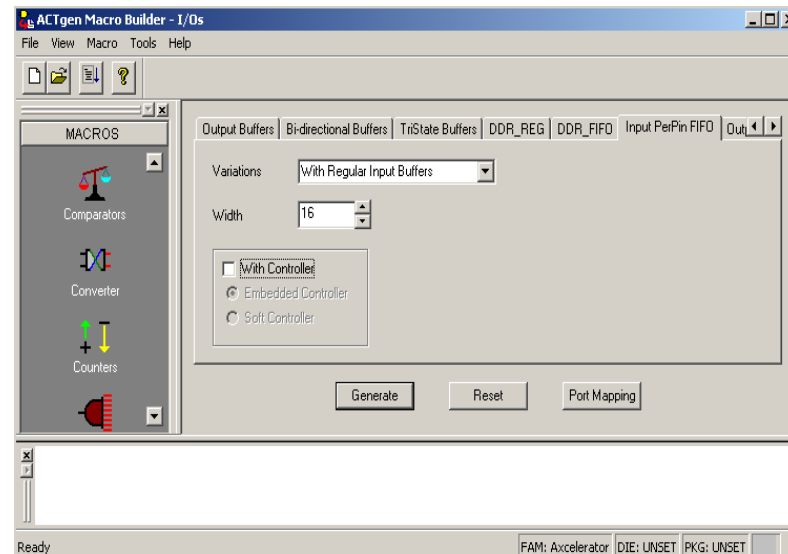

Figure 12 • Choosing Output PerPin FIFO (With Special Input Buffer and Without Controller)
- If the With Special Output Buffer Variation is selected (Figure 12):